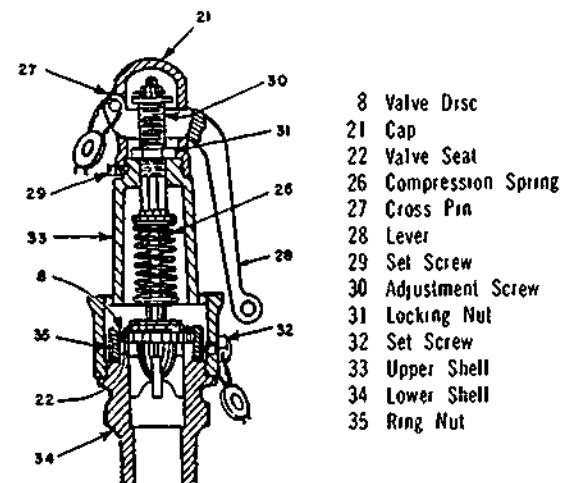

Figure 31-10. Safety Valve
97. Safety Valves. (Refer to Figure 31-10 in the accompanying appendix.) The safety valve is usually installed on top of the sterilizer and connected directly to the chamber jacket. If the pressure in the autoclave exceeds the pressure exerted by the compression spring (26), the valve will open and permit the steam to escape into the atmosphere. The safety valve is set to "pop off" between 150 and 170 kPa on a sterilizer operating at 140 kPa. On high-speed autoclaves operating at 190 kPa pressure, the safety valve is set to release at between 200 and 207 kPa.